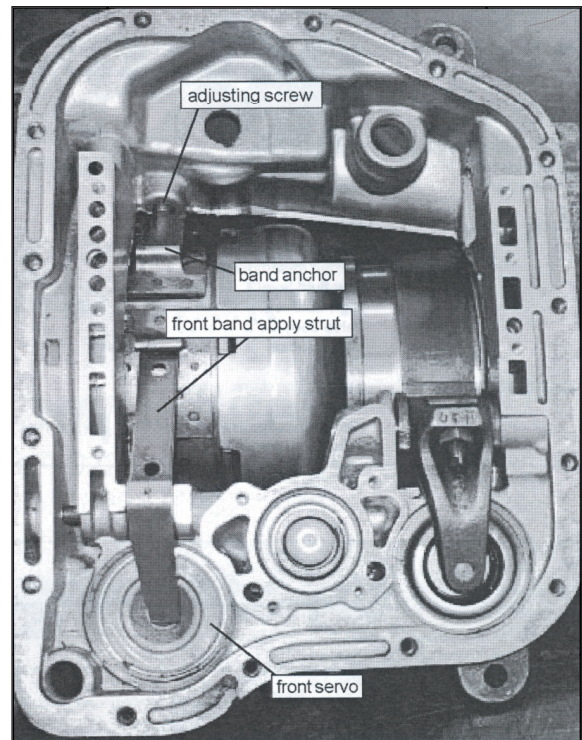

Figure 3
- For 1966 through 1969 transmissions** - Loosen the front servo adjusting screw, band anchor and front band apply strut. Remove the front servo. (Figure 3).